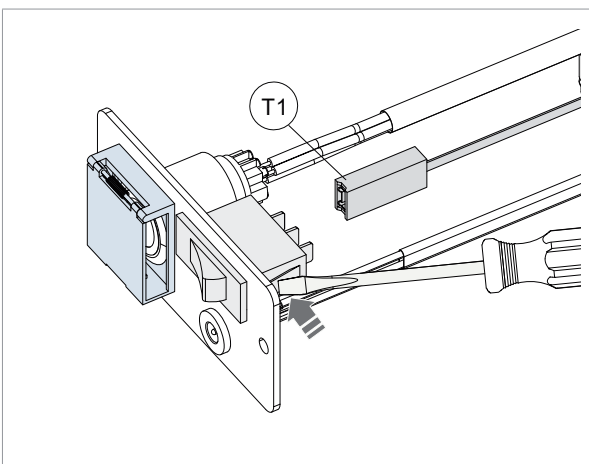
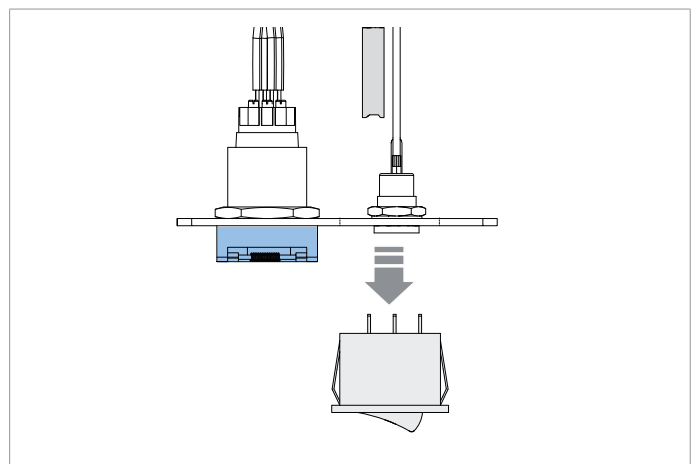

Fig. 47
Fig. 48
- 4) Remove switch (T) by pressing tabs with a screwdriver (Fig. 47 - Fig. 48).